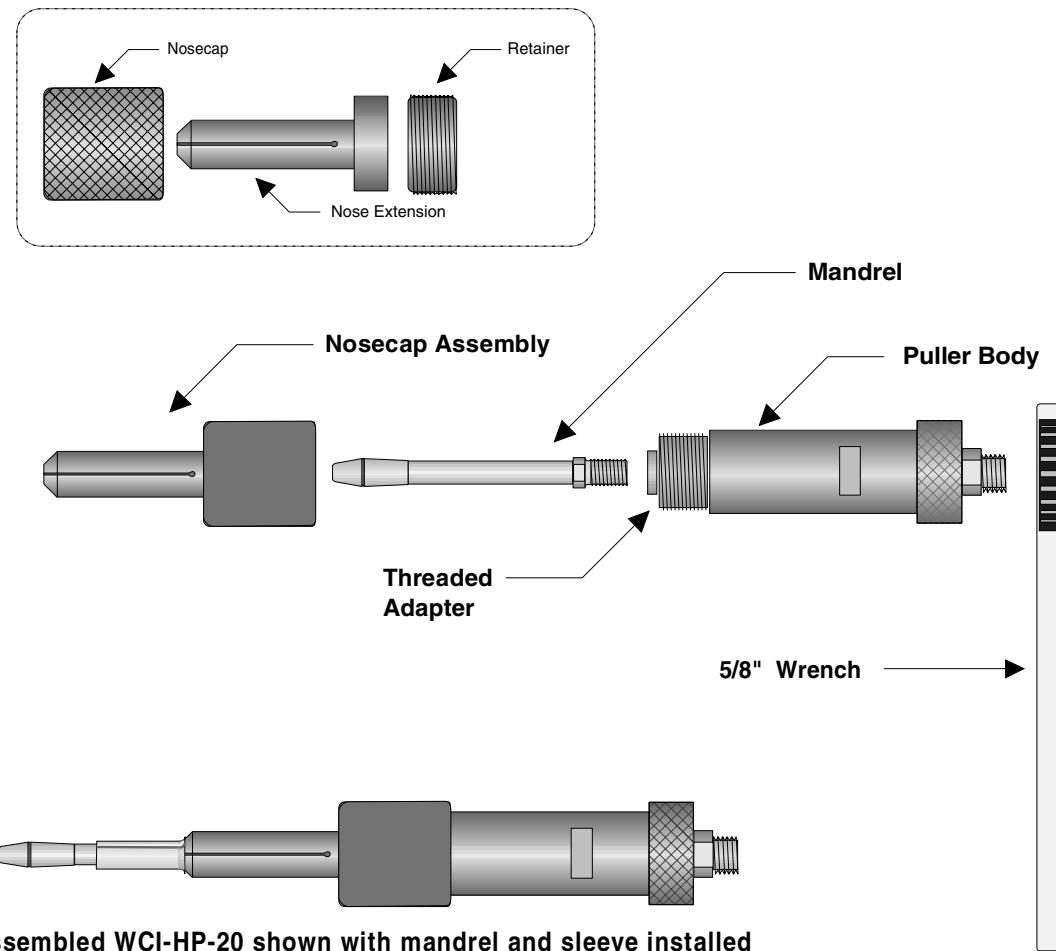

Figure 9-03 — Assembling the WCI-HP-20 Hand Puller
- 9.3.1 Unscrew the nosecap assembly from the puller body. Ref. Fig 9-03.
- 9.3.5 Select the proper sleeve, and slide it onto the mandrel, flared end first. It must fit snug against the nosecap assembly. Ref. Fig 9-03